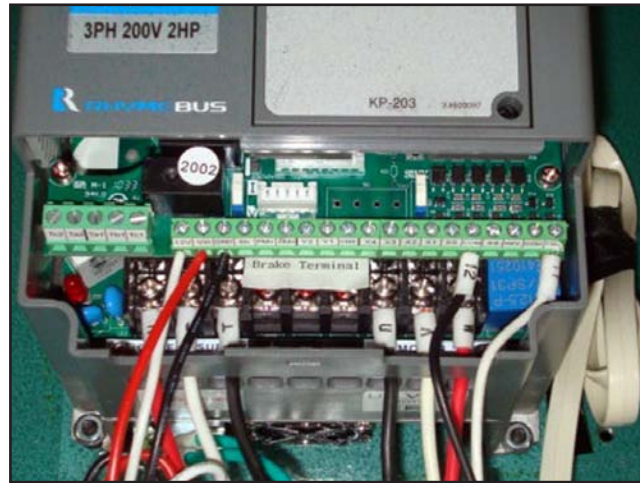

Figure 56. Inverter/Controller box wiring (see wiring diagram on **Page 43**).
(see **Figure 56** on **Page 44**)
- Inverter/Controller box wiring image (**Page 44, Figure 56**).